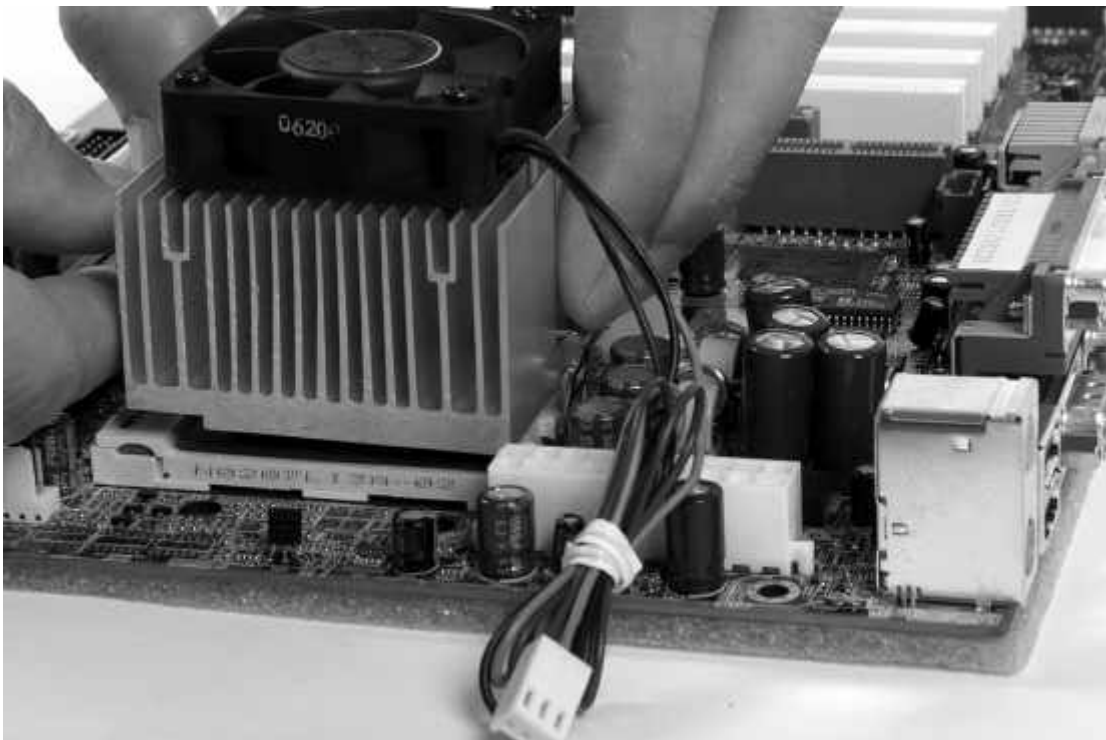

Figure 12. The Proper Way to Install the Heatsink on the Processor
12. Figure 12 shows the first step in the installation of the heatsink. The heatsink must be placed on the processor with the short end of the clip attached to the center lug at the bottom of the socket. It should fit onto this lug with finger pressure alone.